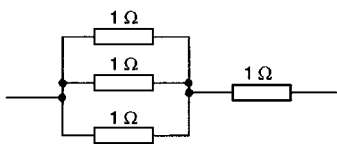

Figure 5.18
- (c) **Three in parallel, in series with one** (see Fig. 5.18), since for the three in parallel,